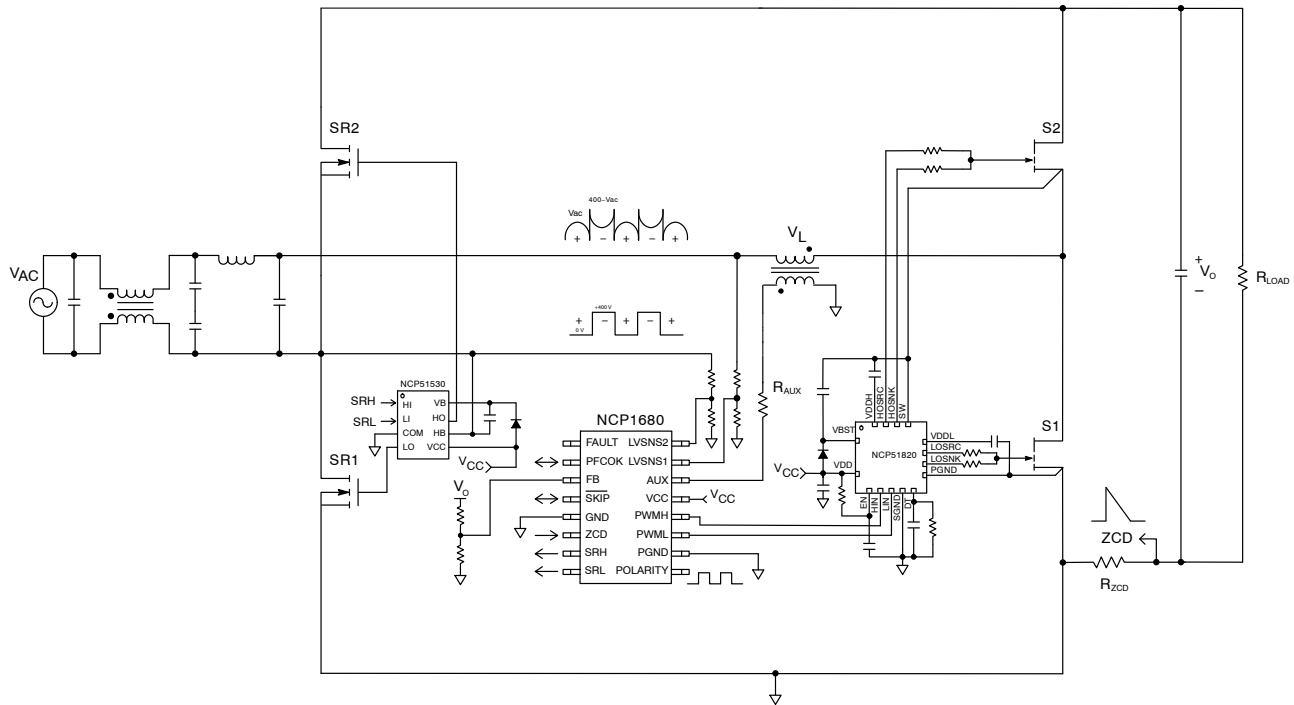

Figure 2. Typical Application Schematic of a CrM Totem Pole PFC Utilizing NCP1680
As shown in Figure 2, the slow leg switches (SR1 & SR2) are high voltage silicon-based FETs, also known as super junction (SJ) FETs, and the fast leg switches (S1 & S2) are Enhancement-mode Gallium Nitride (eGaN) devices. Since NCP1680 employs a CrM control architecture where the inductor current resets back to zero before the next switching cycle, low reverse recovery charge (Q_{rr}) SJ FETs can also be utilized for the fast leg albeit with slightly inferior performance, but better cost structure. As a controller the NCP1680 is agnostic to the fast leg switch technology. Wide-Bandgap (WBG) devices such as Silicon Carbide (SiC) or eGaN are recommended for optimal performance. SiC is a good choice for lower frequency applications while eGaN is an excellent choice for both low frequency and high frequency applications.